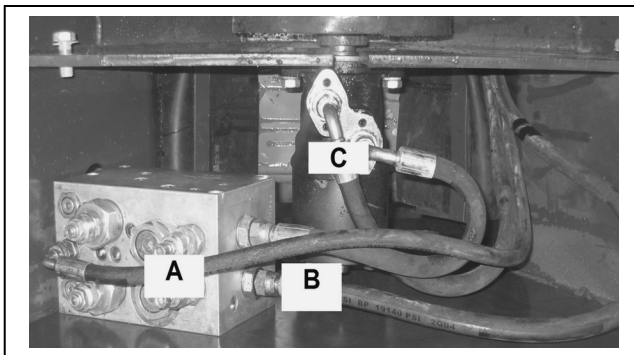

Fig 9
3. Remove the 3x hydraulic pipes shown in figure 9. Pipes A/B/C feed the conveyor, ensure you clearly mark which pipe has come from which port.